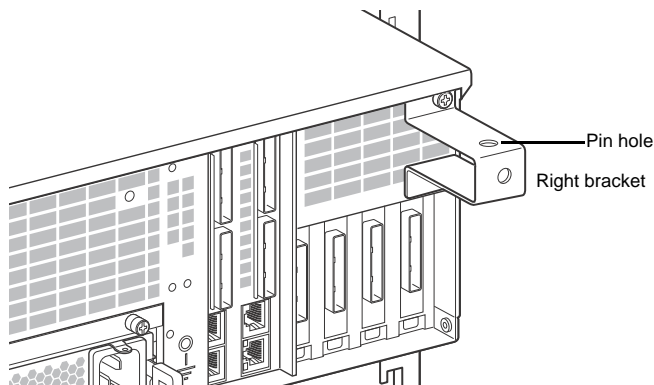

Figure 1.2 Attaching the Right Chassis Mounting Bracket
3. Orient the bracket with the pin hole on the top, as shown in Figure 1.2.